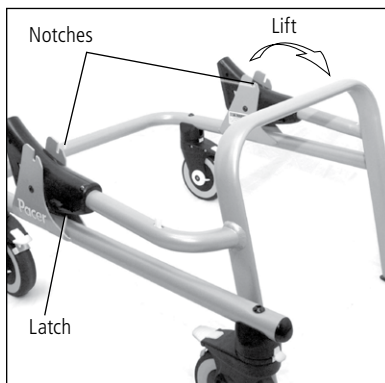

Figure 5
**To collapse the Pacer for easy storage or transport, see Figure 5.**